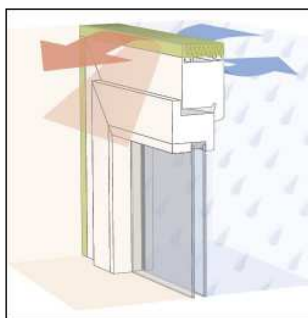

Fig. 1
- TP652 Compriband Trio Plus replaces three sealing products with one (Figure 1). Before the window is installed, TP652 Compriband Trio Plus is fixed to the frame. The transition to all sides must be airtight and sealed against driving rain throughout. We recommend sealing the corners and where the tape locates around fixing brackets with illbruck SP525 adhesive. Below the exterior window sill, it may be necessary to use a secondary water resistant layer (eg ME501 Duo HD Membrane or ME220 EPDM Membrane) so that water will be conducted outwards in a controlled fashion. For cavity wall construction, distance mounting can be used to secure the window. Alternatively, for solid reveals, through-frame fixing is used.